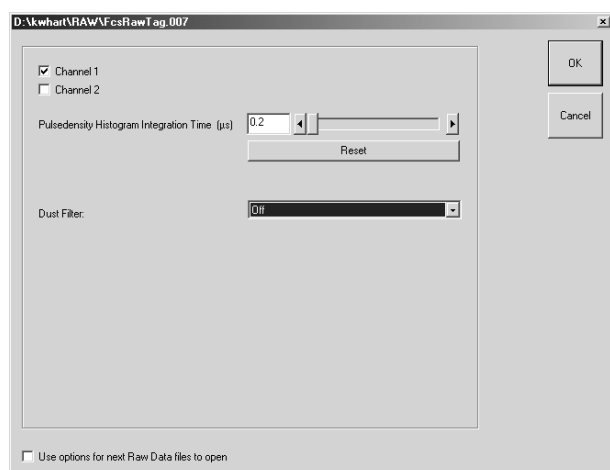

Fig. 5-366 The Options menu for loading raw data files with dust filter inactivated
- ConfoCor2 raw data files: Each file will be opened in a different **Data evaluation** window. If you open a raw data file the **Options** menu for loading raw data files will appear (see Fig. 5-366). You have several options to open raw data files.
- Selection of **Off** (see Fig. 5-366) will inactivate the dust filter.